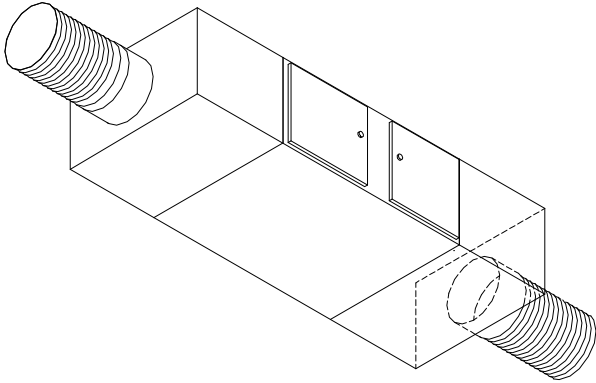

FIG. 3
1. The MT1252 comes standard with a set of rectangular plenums that include a 14" diameter collar (AM-14) to connect to flexible duct above ceiling. Upon installing the MT1252, follow the instructions included with the AM-14 plenum kit. The completed installation should look like the following diagram. (See **FIG. 3**.)